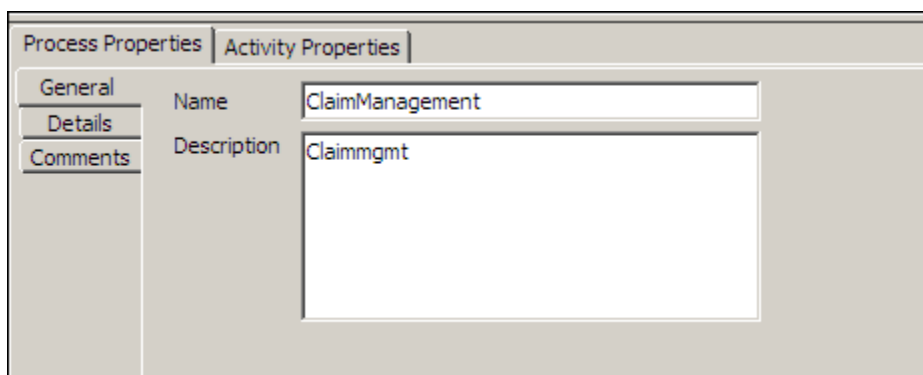

Figure 17: Viewing Properties of Entire Process Model
1. Click the **Process Properties** tab in the Bottom Pane. It displays the properties for the entire process model in the **Process Properties Panel** in the Bottom Pane (see Figure 17).